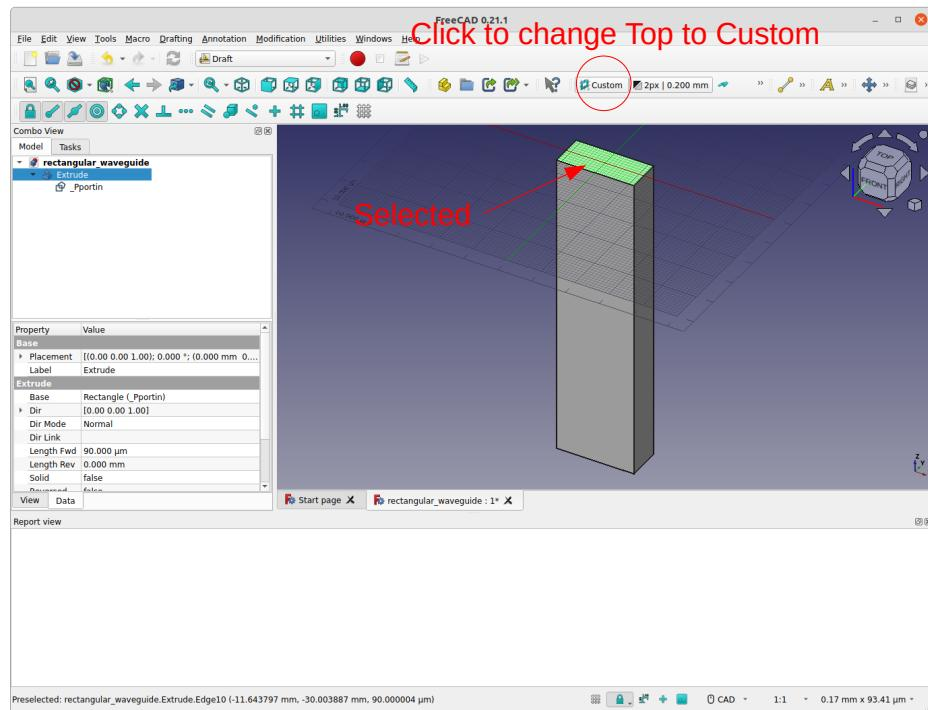

Figure 4: Setting the drawing plane to the end of the extrusion.
- Click on the end of the long extrusion that is opposite of **\_Pportin** then change the drawing plane to this plane by selecting **Utilities**→**Select Plane**. Alternatively, click the menu bar item as shown in Fig. 4 to change from **Top** to **Custom**.